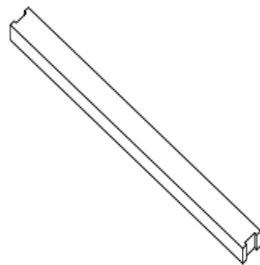

Figure 1 Solid wood support frame
- Crane unloading: Fix the lifting belt in the buckle of solid wood support frame (Figures 1 and 2), and only one support module is allowed to be lifted at each time. Before lifting, confirm whether the pallet and carton are damaged and whether the lifting rope is strong and firm. When lifting is about to land, two people straighten the carton gently on the relatively flat position of the project.